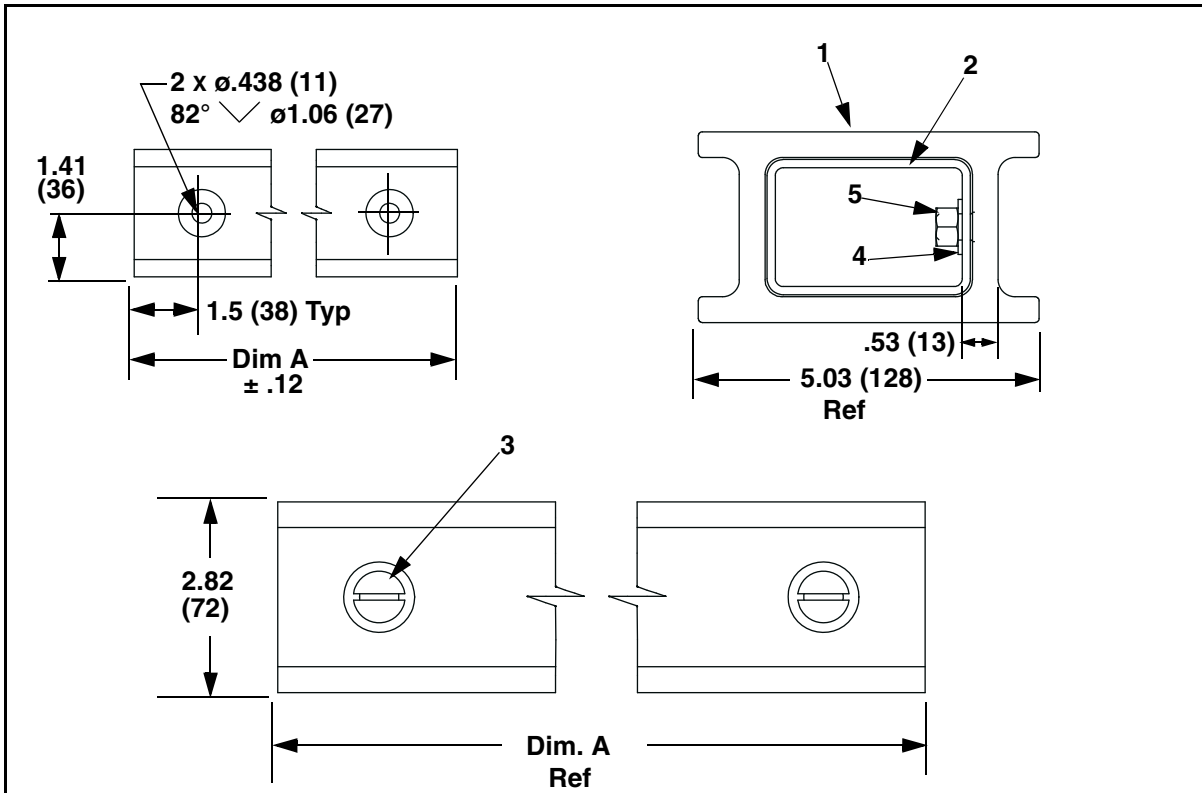

Figure 3a. Martin® Idler Slider Bar Assembly, P/N 37135-BXX
Refer to Figures 3a and 3b.
3. Slider bar shown for reference only. See drawing 37135-BXX for slider bar kit (Figures 3a and 3b).
See Figures 3a and 3b